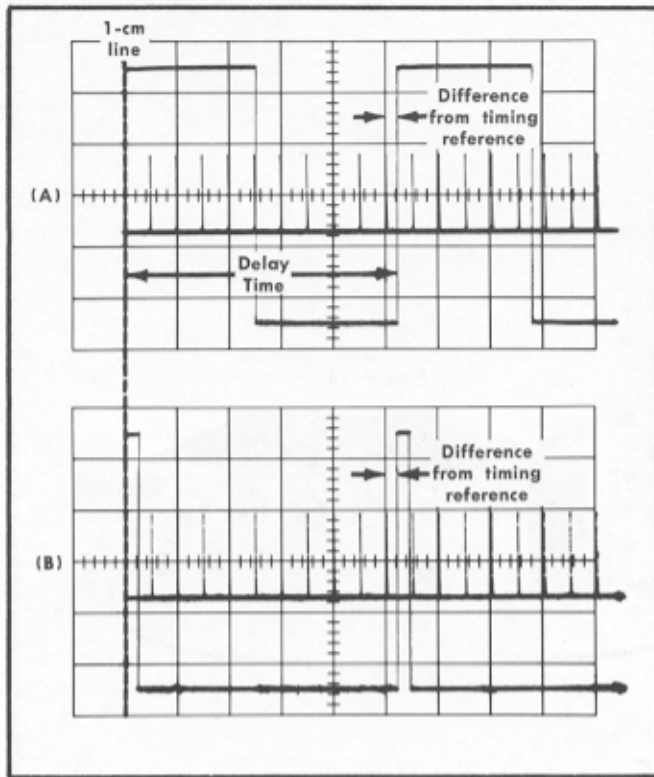

Fig. 7-31. Typical test oscilloscope displays for checking delay timing adjustments: (A) 50 μ s delay; (B) 500- μ s delay.
- d. Check for—Test oscilloscope display of the double pulse waveform with a delay period of 50 μ s between corresponding points on the two pulses (see Fig. 7-31), within 3% (+10 ns) of the reference waveform (± 1.5 mm over 5 cm).
l. Check for — Test oscilloscope displays with a delay period between corresponding points on the two pulses (see Fig. 7-31), as indicated in the last column of Table 7-11.